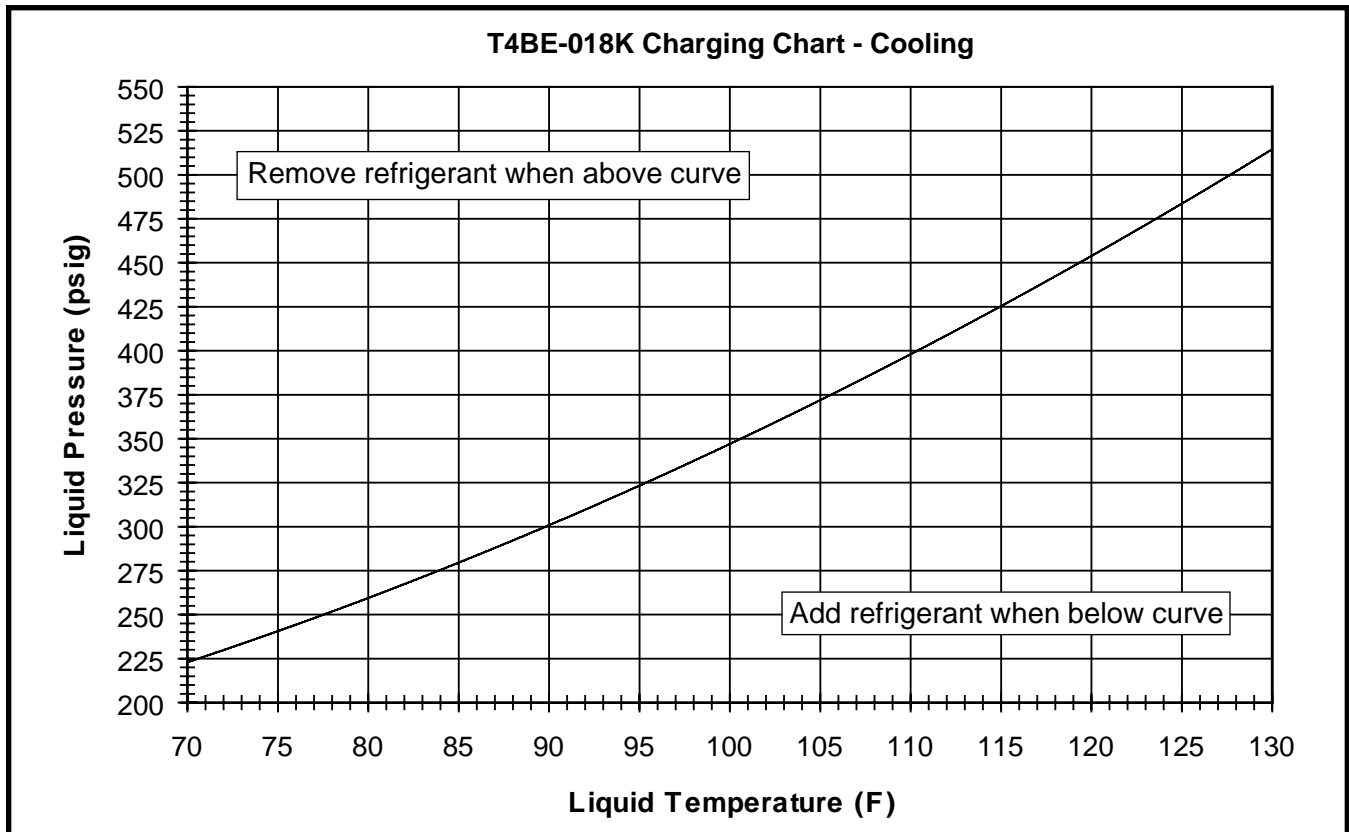

Figure 4. Charging Chart for T4BE-018 Series (1.5 Ton Units) - TXV Matches
- Charging charts are valid for a variety of indoor, return air conditions and are most influenced by the outdoor ambient temperature, outdoor fan operation and the unit operating voltage. Before using these charts, make sure the unit is in a stable operating mode. As shown in the charging charts (Figures 4 - 10, pages 10 - 13), the ideal system sub-cooling can vary over the range of operation. Reference the charts to determine the ideal amount of sub-cooling for a given liquid pressure. Units charged to other values will not perform at the rated unit efficiency (EER) or rated Coefficient of Performance (COP) in heating mode.